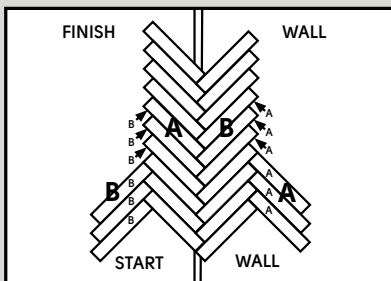

Fig. 7
8. Begin at the 'Start wall' and slide the end joint of a 'B' plank into the side of an 'A' plank. Slide the 'B' plank back into the end of the 'A' plank at a slight angle until tight (Fig. 7). Note: if there is any drift off the center line, the product can be moved back and forth across the floor (Fig. 7).